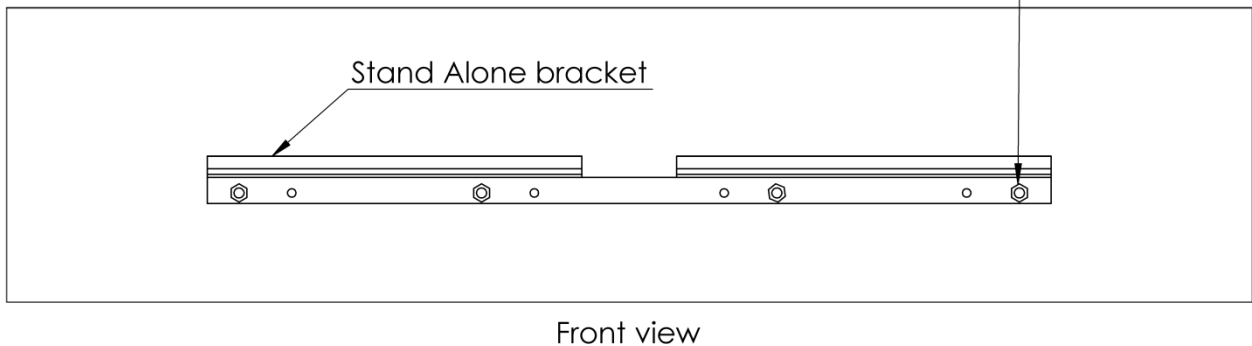

Figure 3: Concrete Wall Mounting Detail
3. Attach the unit to the mounting bracket. (See Figure 3 on page 21).